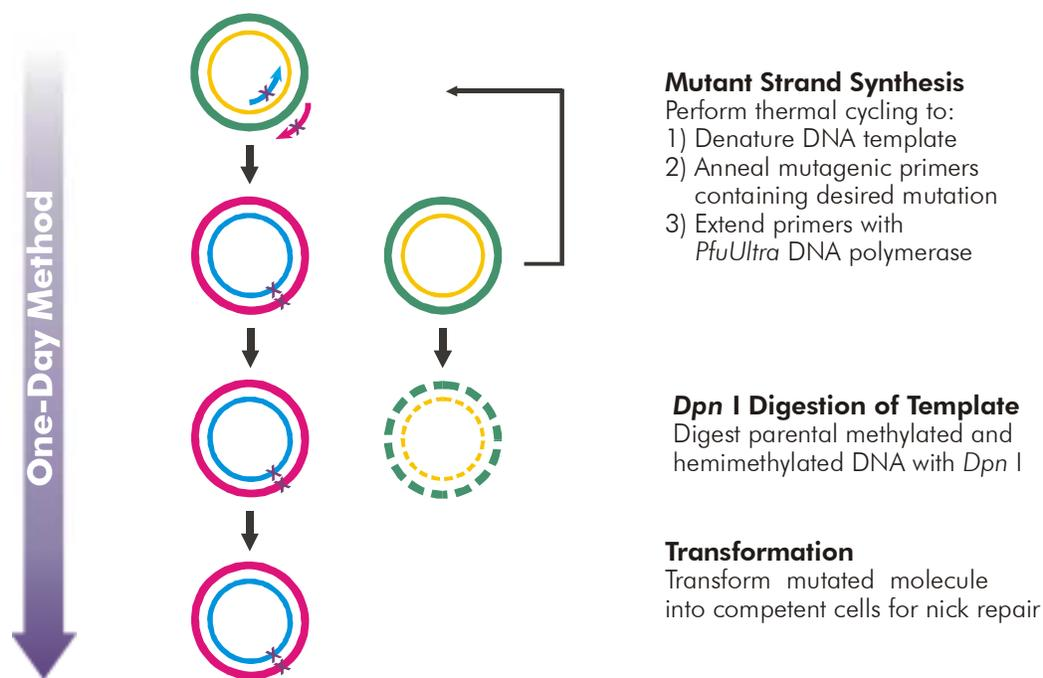

FIGURE 1 Overview of the QuikChange® II XL site-directed mutagenesis method.
In vitro site-directed mutagenesis is an invaluable technique for characterizing the dynamic, complex relationships between protein structure and function, for studying gene expression elements, and for carrying out vector modification. Several approaches to this technique have been published, but these methods generally require single-stranded DNA (ssDNA) as the template¹⁻⁴ and are labor intensive or technically difficult. Stratagene's QuikChange® II XL site-directed mutagenesis kit* is specifically optimized for large, difficult constructs and allows site-specific mutation in virtually any double-stranded plasmid. The kit eliminates the need for subcloning and for ssDNA rescue.⁵ In addition, the QuikChange II XL site-directed mutagenesis kit does not require specialized vectors, unique restriction sites, multiple transformations or in vitro methylation treatment steps. The rapid three-step procedure generates mutants with greater than 80% efficiency (see Figure 1). The protocol is simple and uses either miniprep plasmid DNA or cesium-chloride-purified DNA.
The QuikChange II XL kit is used to make point mutations, replace amino acids, and delete or insert single or multiple adjacent amino acids. The QuikChange II XL site-directed mutagenesis method is performed using *PfuUltra*[™] high-fidelity (HF) DNA polymerase** for mutagenic primer-directed replication of both plasmid strands with the highest fidelity.^{||} The basic procedure utilizes a supercoiled double-stranded DNA (dsDNA) vector with an insert of interest and two synthetic oligonucleotide primers, both containing the desired mutation (see Figure 1). The oligonucleotide primers, each complementary to opposite strands of the vector, are extended during temperature cycling by *PfuUltra* HF DNA polymerase, without primer displacement. Extension of the oligonucleotide primers generates a mutated plasmid containing staggered nicks. Following temperature cycling, the product is treated with *Dpn* I. The *Dpn* I endonuclease (target sequence: 5'-Gm⁶ATC-3') is specific for methylated and hemimethylated DNA and is used to digest the parental DNA template and to select for mutation-containing synthesized DNA.⁶ DNA isolated from almost all *E. coli* strains is dam methylated and therefore susceptible to *Dpn* I digestion. The nicked vector DNA incorporating the desired mutations is then transformed into XL10-Gold^{®***} ultracompetent cells.